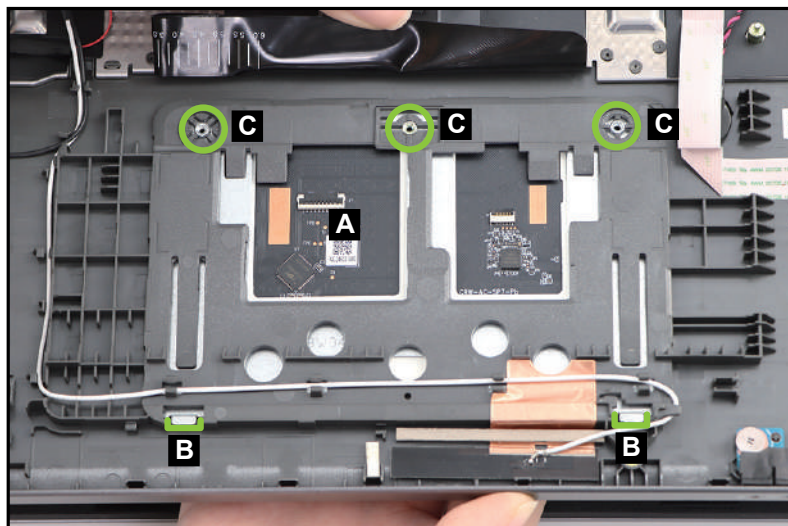

Figure 3-122. Replacing the Touchpad Module
1. Slightly lift the mylar. Then slide the touchpad module (A) into the bottom latches (B) until those are fully engaged (Figure 3-122).
2. Ensure that the touchpad module is properly aligned with the guide pins (C), push the touchpad module firmly onto its slot until it is fully seated in place (Figure 3-122).